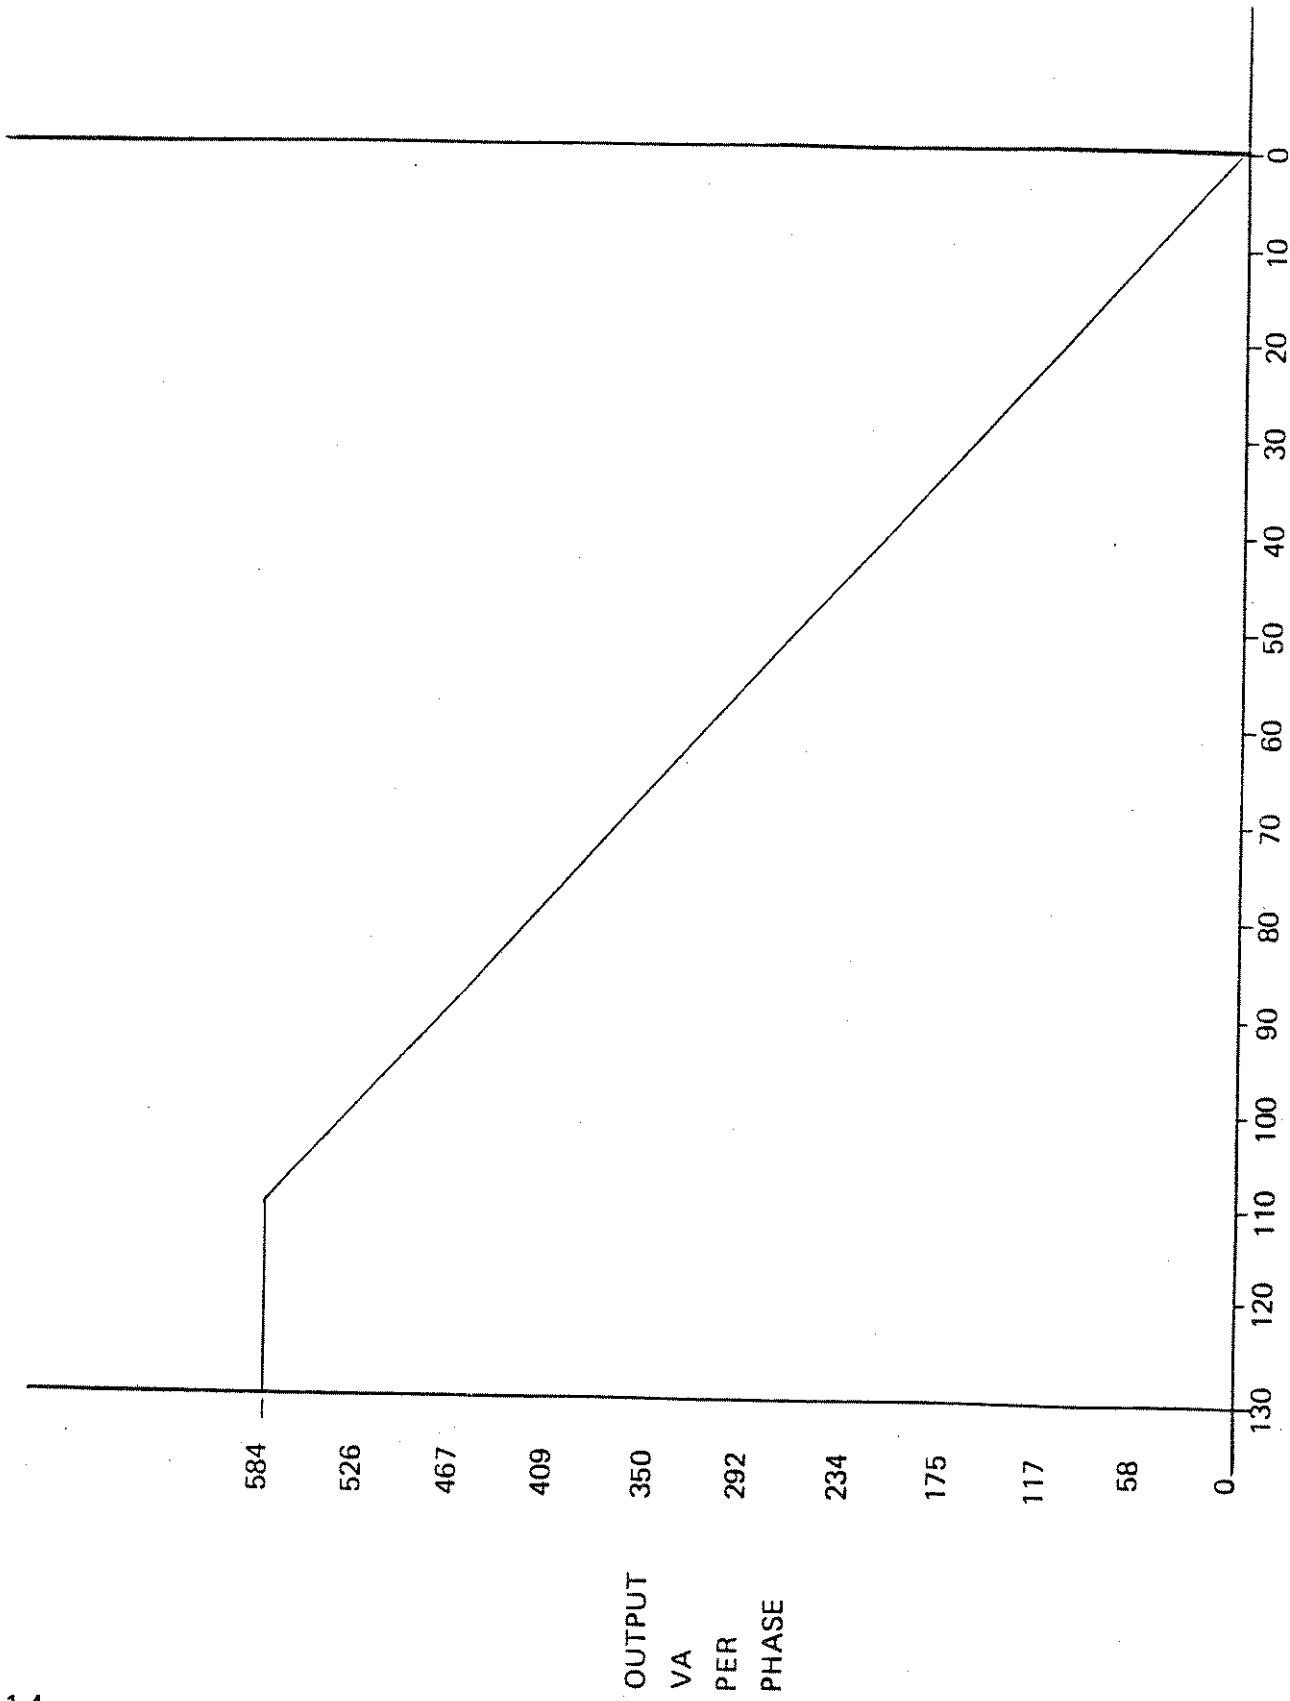

Figure 1-2. Output Power Derating
1-17. Power at less than full rated output voltage is derated as shown in Figure 1-2.
4. OUTPUT VOLTAGE MONITOR. See Figure 1-2 for output power derating when operating at less than full-rated output voltage. Select individual A, B, or C phase output voltage for readout at front panel meter by setting OUTPUT VOLTAGE selector to desired position.